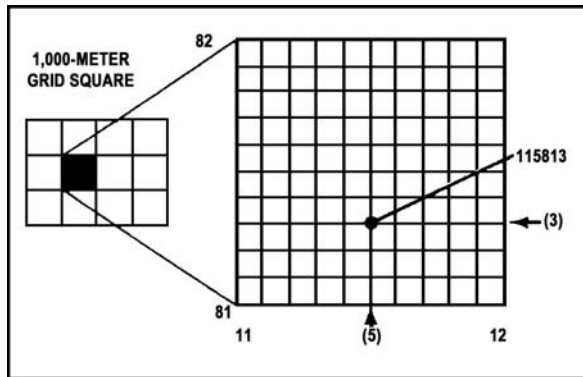

Figure 071-329-1002-2. Grid square 1181 divided
b. Suppose you are halfway between grid line 11 and grid line 12. Then the next number is 5 and the first half of your address is 115. Now suppose you are also $\frac{3}{10}$ of the way between grid line 81 and grid line 82. Then the second half of your address is 813. Your address would be 115813 (figure 071-329-1002-2). (If you are exactly on line 81, the second half would be 810.)